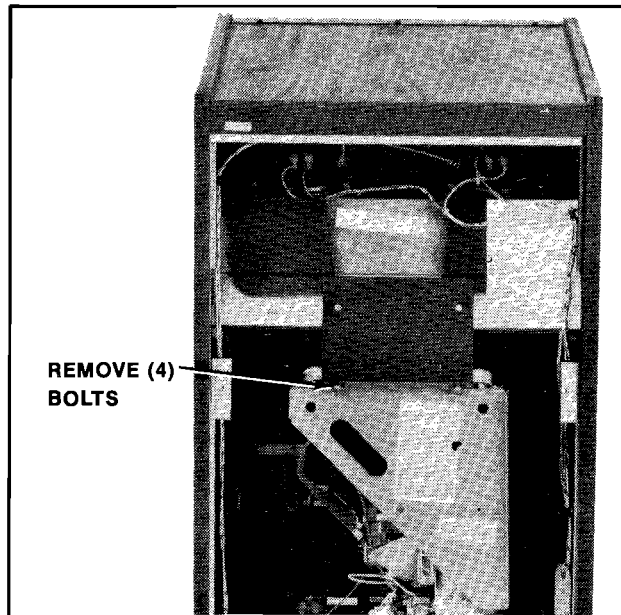

Figure 4-10 Removing Monitor — Mini
### 2. MINI MODEL. See Figure 4-10.
- The monitor is removed by supporting it and pulling straight back as shown in Figure 4-10. (BE CAREFUL not to hit monitor on its rear support bracket.)